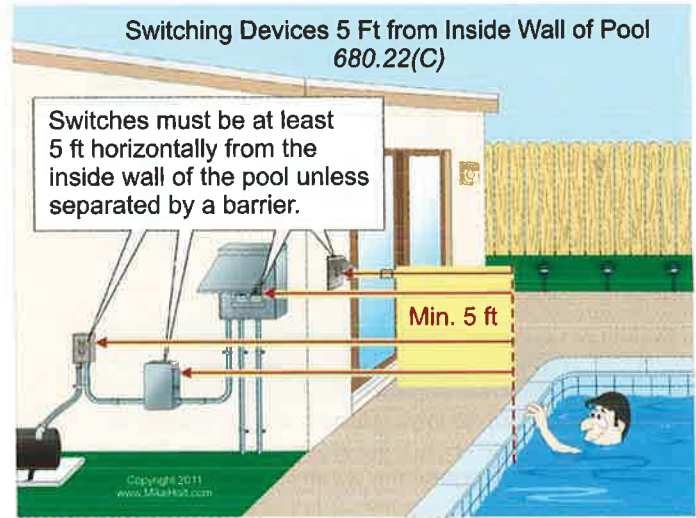

Figure 680-20
(C) Switching Devices. Circuit breakers, time clocks, pool light switches, and other switching devices must be located not less than 5 ft horizontally from the inside walls of a permanently installed pool, outdoor spa, or outdoor hot tub unless separated by a solid fence, wall, or other permanent barrier. **Figure 680-20**